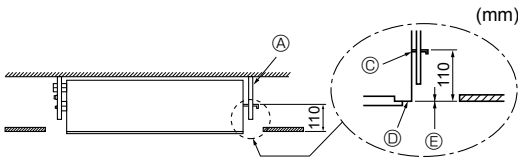

Fig. 2-9
5. Tighten all the nuts. (Fig. 2-9)
- ① Suspension bolt (3/8" or M10)
② Clear plastic tubing
③ Underside of bracket
④ Secure front panel here.
⑤ Make sure these surfaces are flush with each other (0 - 3 mm).